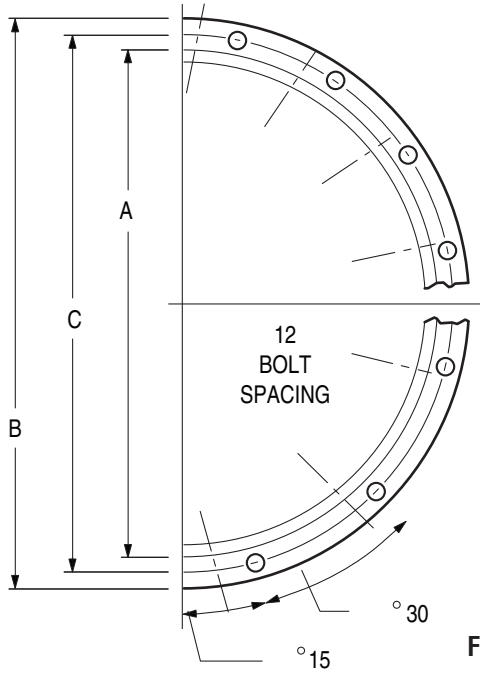

Fig. 1
*SAE #1 denotes clutch housing size. See Fig. 1